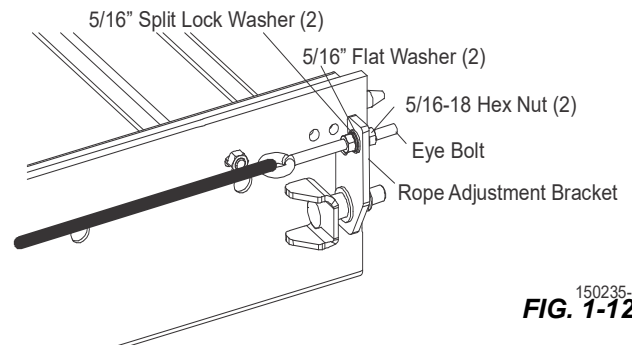

FIG. 1-12
4. Install the provided feed rope adjustment bracket to the sawmill bed as shown below. Install the eye bolt to the feed rope adjustment bracket and secure with the provided fasteners. See Fig. 1-12.